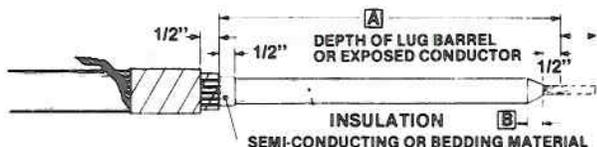

FIGURE 2
2. Prepare cable according to Figure 2 and Table II.